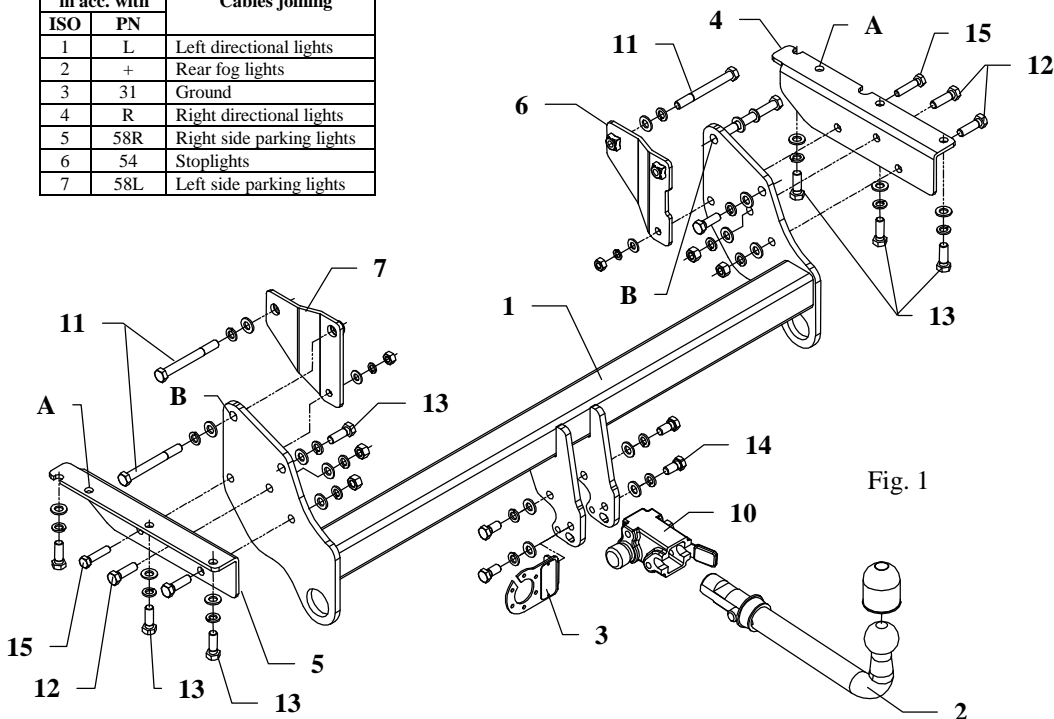
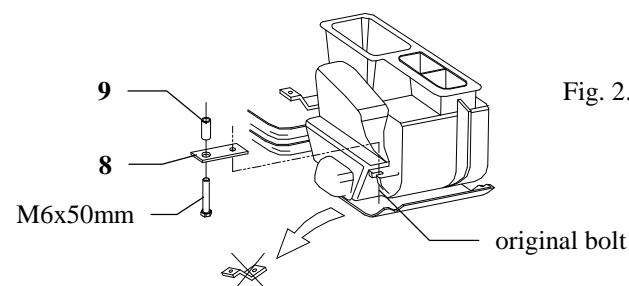

Fig. 1
Fig. 2. Filter installation
2. In long version with air-conditioning disassemble a filter (fig. 2).
3. Put angle bar (pos. 4 and 5) below the car to chassis members in this way so holes in angle bar agree with holes in members and fix by bolts M12x1,25x35mm (pos. 13), see fig.1. **NOTE!** In short version the last bolt fix through hole A of angle bar.
4. Between mounted angle bar put main bar of the towing hitch (pos. 1) and fix by bolts M12x40mm (pos. 12) and:
- **long body version** – put bend fish-plates (pos. 6 and 7) and fix all using bolts M12x110mm (pos. 11) and M10x45mm (pos. 15)
- **short body version**- through holes B fix main bar to the chassis members by bolts M12x110mm (one each side, bend fish-plates pos. 6 and 7 not used)
5. Fix body of the automat (pos. 10) and the socket plate (pos. 3) using bolts M12x25mm (pos. 14) from accessories. Place tow-ball (pos. 2) according to supplied instruction.
6. In long version with air-conditioning reassemble a filter (see fig. 2).